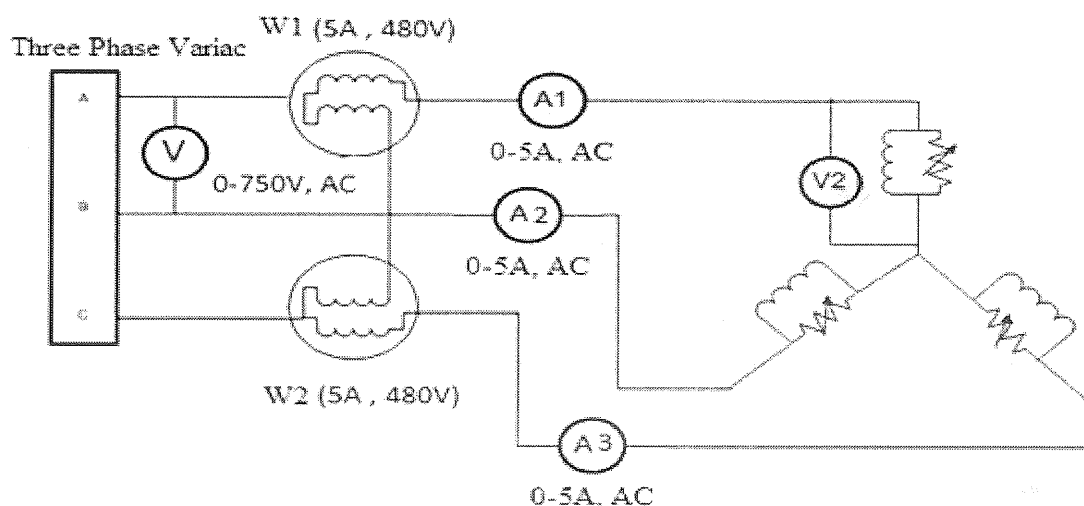

Figure 3: Circuit diagram for power measurement of a delta connected balanced system by two wattmeter method.
Step 1 – Connect the circuit as shown in Figure 3.
Step 1 – Use the circuit in Figure 3
Step 6 – Use the multi-meter to measure the voltage of the load neutral point (N') with respect to supply neutral (N) and phase voltage of each load.